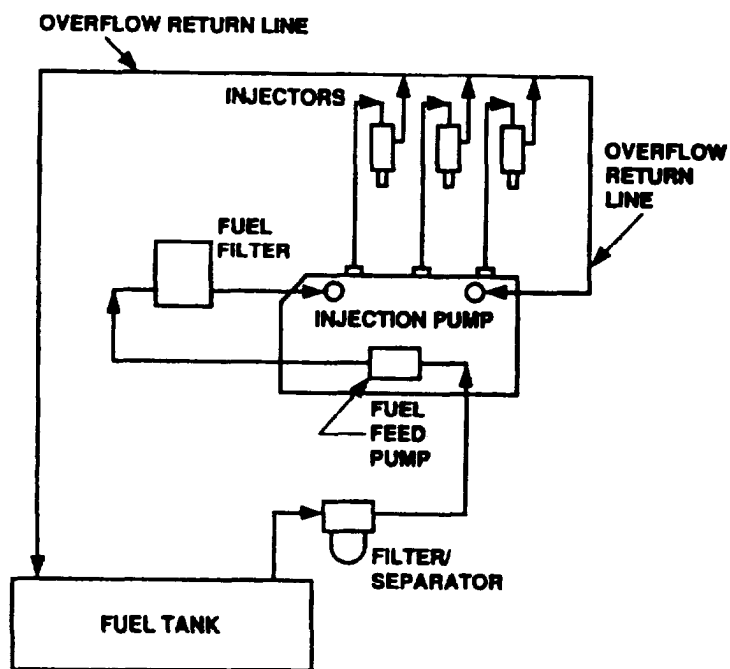

Figure 1-4. Fuel System Functional Diagram.
1.14.2.4 Fuel System. The fuel system is connected to the fuel tank and provides fuel to the engine. Figure 1-4 provides a functional diagram of the fuel system. When the engine is cranked or operating, the fuel feed pump draws fuel through the filter/separator that filters solid contaminants larger than one micron in size from the fuel. In addition, filter/separator removes water from the fuel. After the filter/separator, fuel is drawn to the fuel feed pump. The fuel feed pump is a diaphragm type pump actuated by a cam in the fuel injection pump. When activated, the fuel feed pump provides a positive head of pressure to the fuel injection pump via a fuel filter. The fuel filter provides additional filtering of the fuel before it enters the fuel injector pump. The fuel injection pump is a high pressure fuel delivery pump driven by a timing gear in the engine. The main shaft in the injection pump has cams which operate plungers. Plungers pump fuel into the injector nozzles. The amount of fuel injected into the nozzles is controlled mechanically. The fuel injector nozzles are single inlet, four outlet, high pressure injectors. High pressure injectors spray fuel directly into the engine cylinders. Overflow lines are provided to carry excess fuel that is not needed for combustion. The excess fuel is carried to the fuel tank and injection pump. Fuel is returned to the fuel tank by way of an overflow return fitting on the fuel tank.